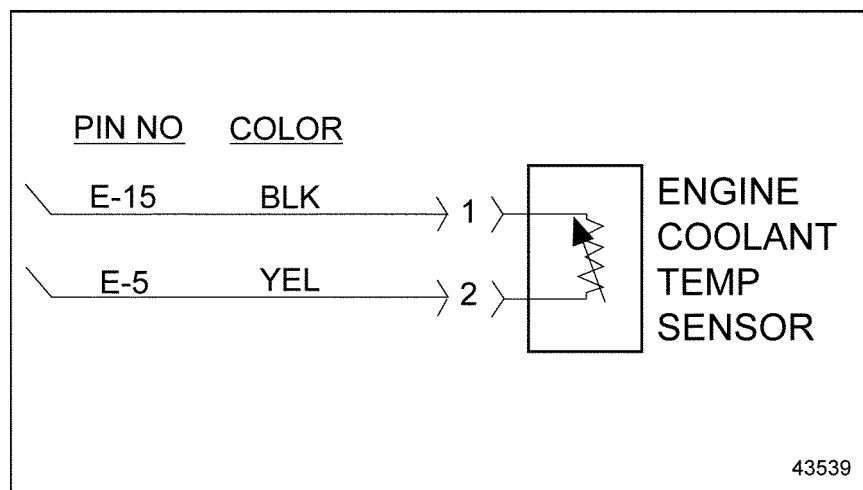

Figure 24-2 Engine Coolant Temperature Sensor Circuits
2. Disconnect (unplug) CTS/ECT Sensor connector. See Figure 24-2.
5. Check terminals at the CTS/ECT Sensor connector (both sensor and harness side) for damage; bent, corroded and unseated pins or sockets. See Figure 24-2.